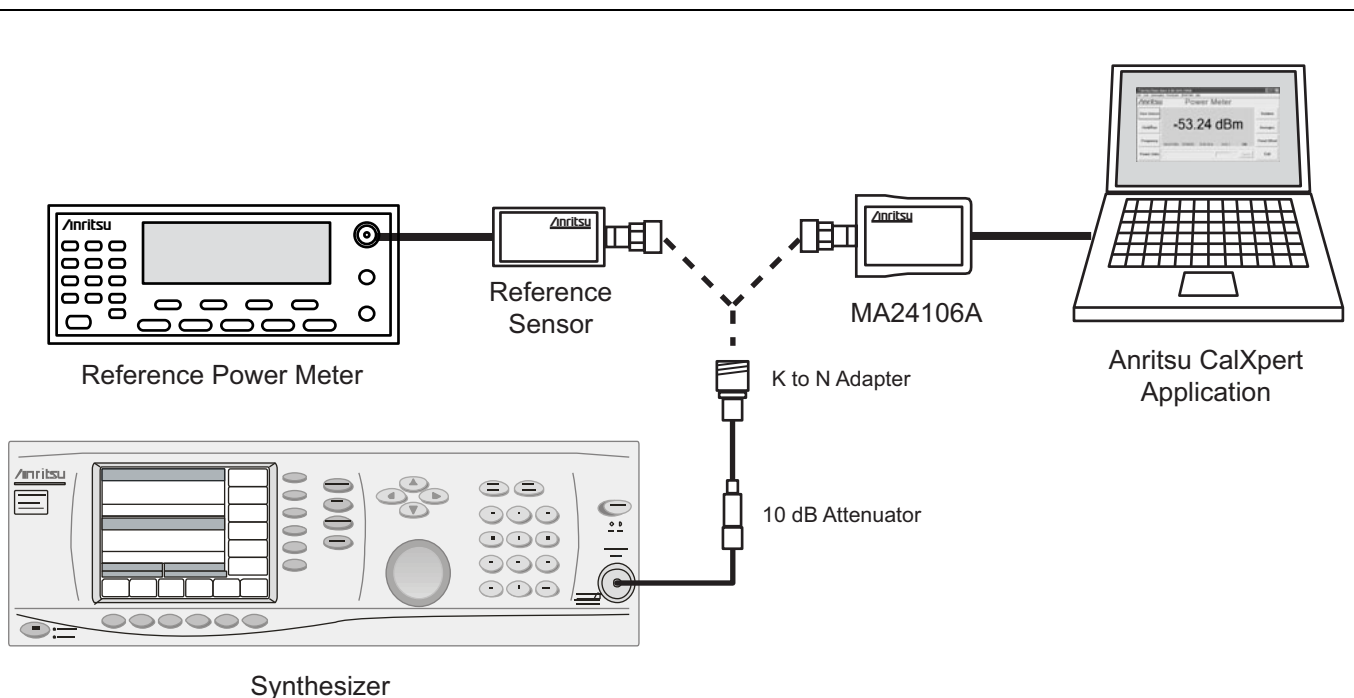

Figure 3-1. Range Connection Characterization Setup (typical)
1. Connect a reference sensor to the synthesizer as shown in Figure 3-1 below:
- Connect the power sensor to the PC (Figure 3-1) and launch the MA24106A CalXpert wizard.